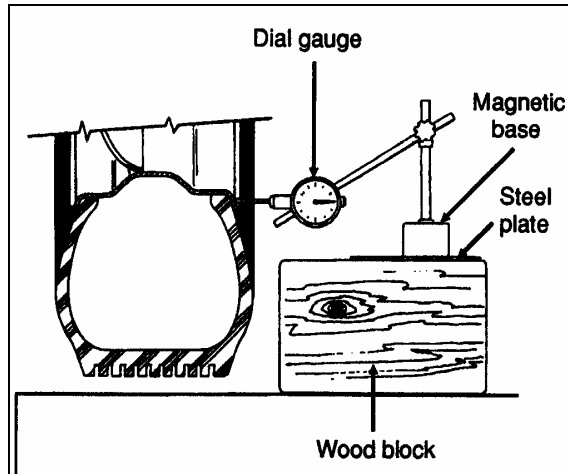

FIGURE 4: DIAL GAUGE INSTALLATION 13008
2. Check wheel lateral runout. Install a dial gauge as shown in figure 4, then rotate the wheel by hand one full turn. As the wheel turns, note any variation on the dial gauge;